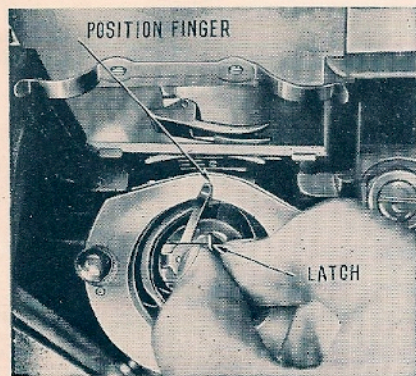

Fig. 9
4. After threading the bobbin case, hold its latch (Fig. 9) between the thumb and forefinger of the left hand, with its position finger